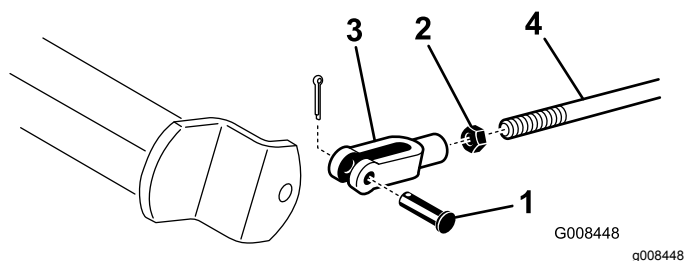

Figure 44
- A. Disconnect the brake rods by removing the cotter pin and clevis pin (Figure 44).
- B. Loosen the jam nut and adjust the clevis accordingly (Figure 44).
- C. Assemble the clevis to the brake shaft (Figure 44).